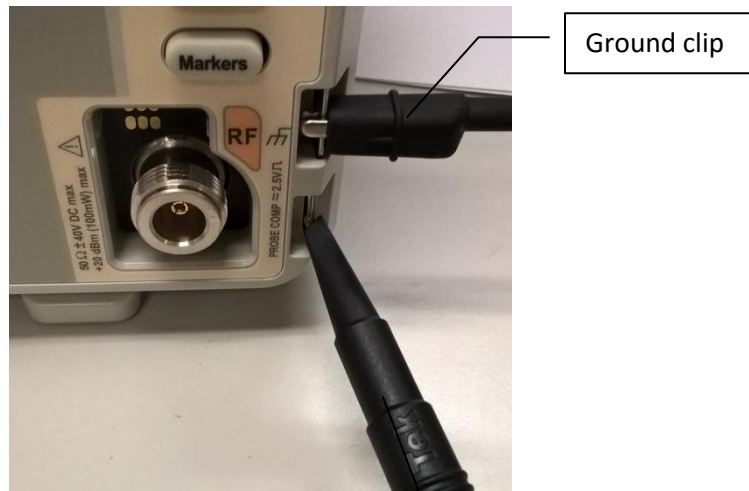

Figure 4
2. Connect the TPP Probe to the probe compensation output as shown in **Figure 4**.